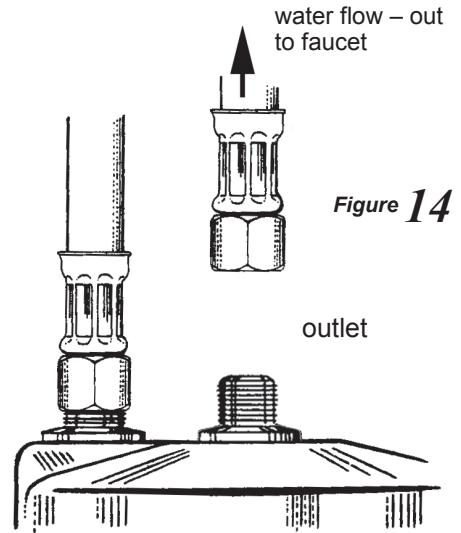

Figure 14
2. Attach Connector Hose from the kitchen faucet or installed Esprit Faucet to top fitting of Outlet Port (center outlet port). Tighten $\frac{1}{2}$ to $\frac{3}{4}$ turn beyond finger tight (Fig. 14). Do not over tighten.